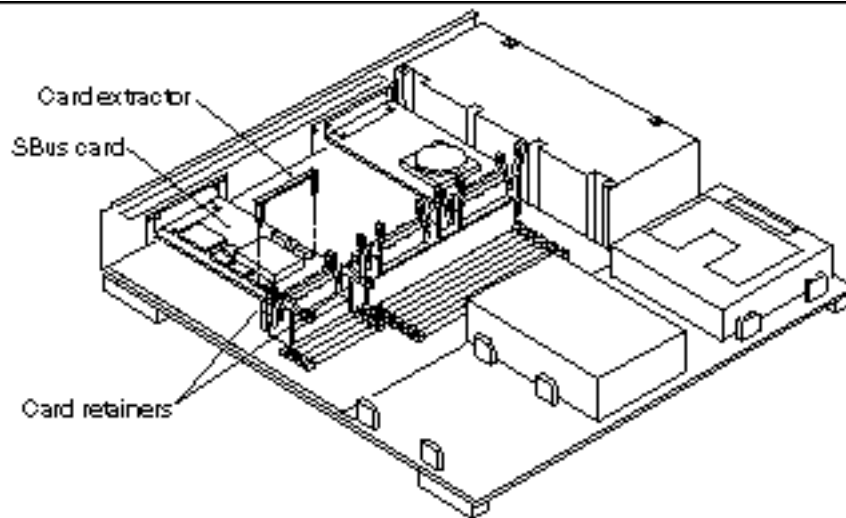

Figure 6–2 SBus Card—Card Retainers and Card Extractor
9. Install the card extractor on the SBus card. See Figure 6–2.
See Figure 6–3 for a single width SBus card or Figure 6–4 for a double width SBus card.